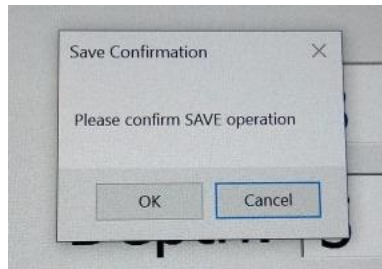

Figure 13: SAVE confirmation prompt. Once it is saved the user cannot make changes to the file.
2. A prompt will come up on the screen (Figure 13). Press either BACK or TAB to toggle to OK and then ENTER to confirm save